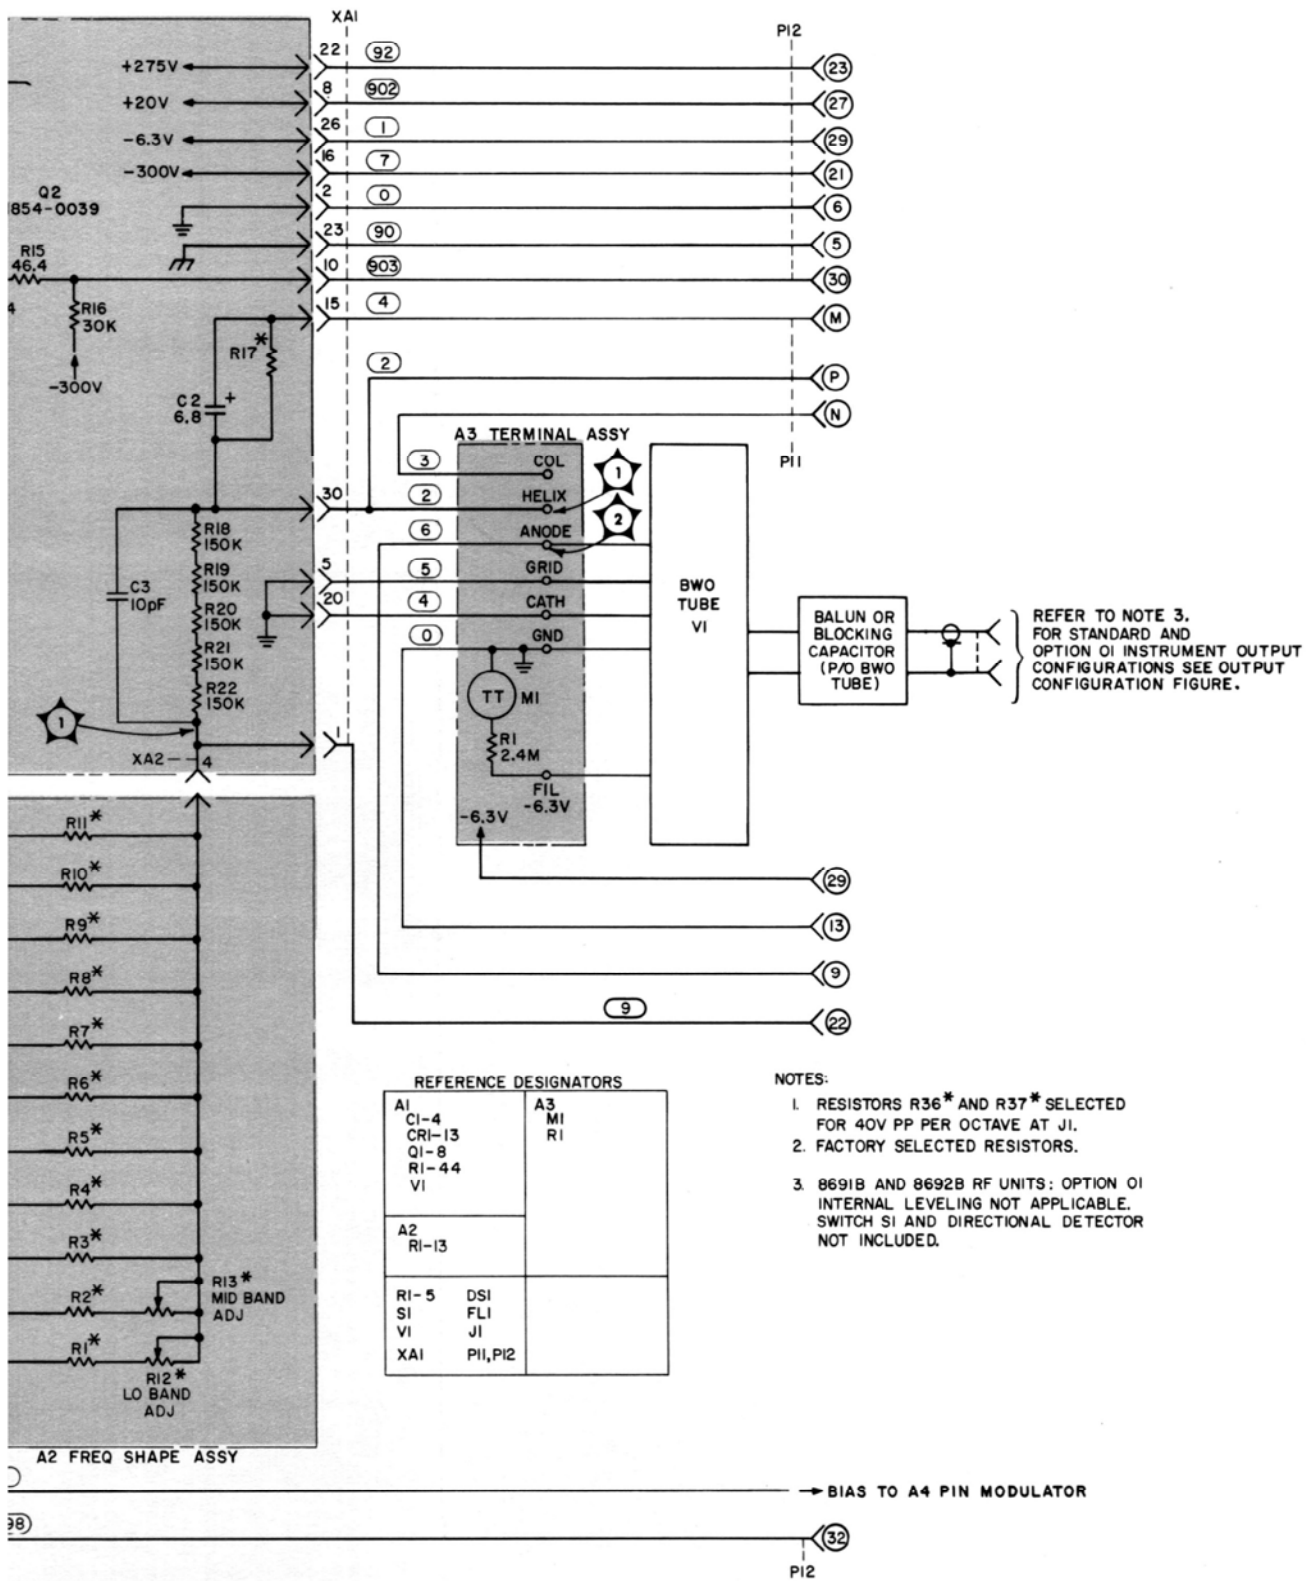

Figure 4-2. RF Unit for Serial Prefix 724 and Below
Page 4-3/4-4, Figure 4-2:
- Page 4-3/4-4, Figure 4-2: